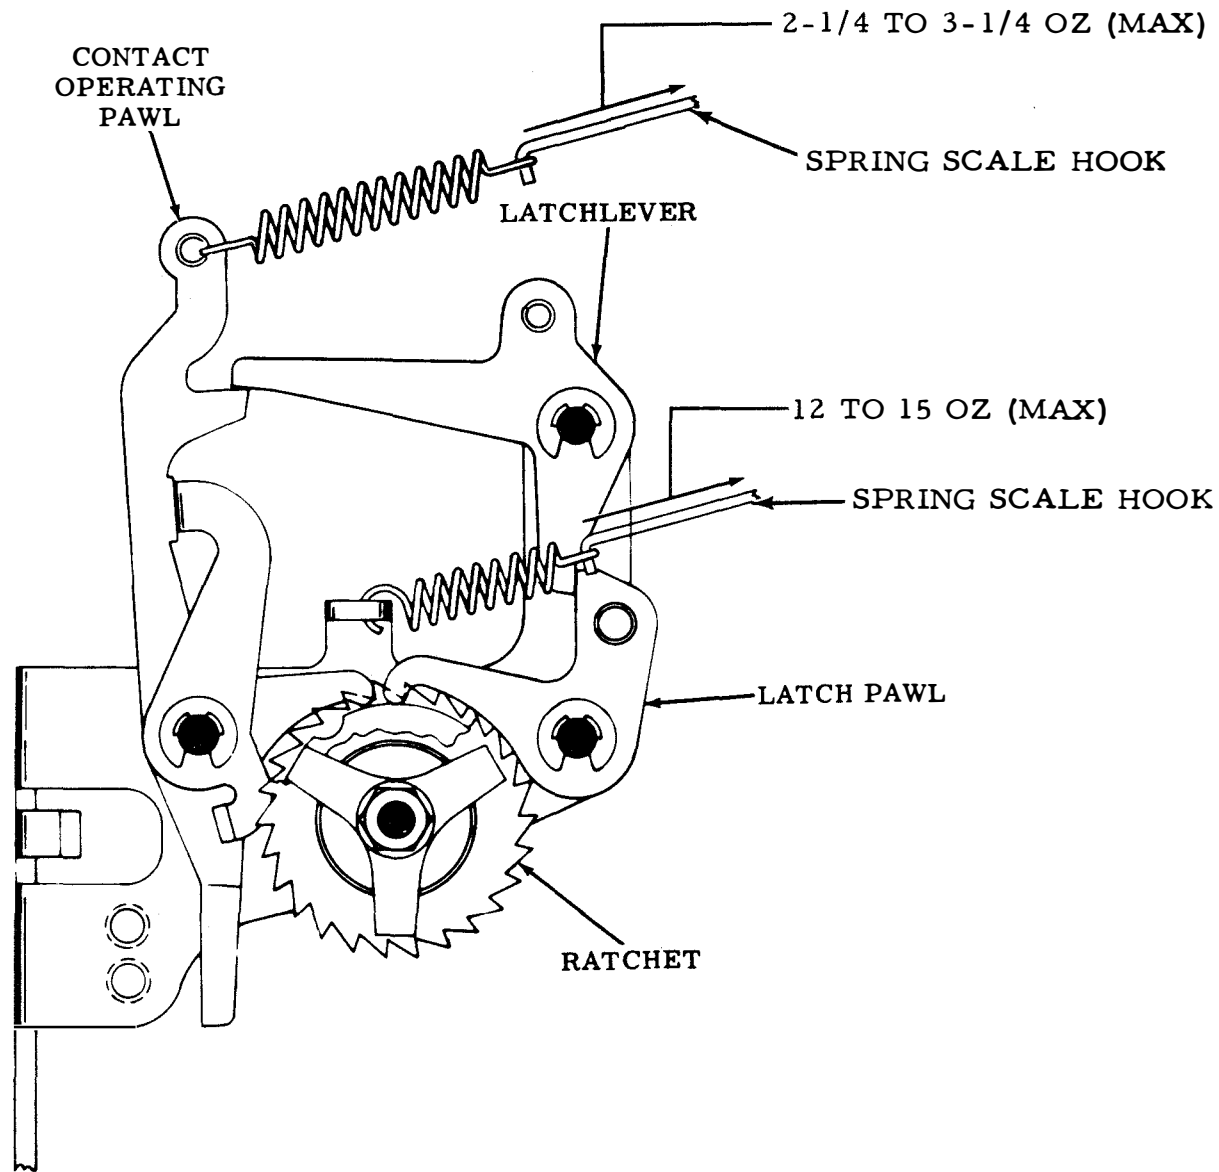

Figure 6-244. Time Delay Latch Pawl Spring and Contact Operating Pawl Spring
(8) Time Delay Latch Pawl Spring. Adjust as follows:
- (a) Refer to figure 6-244.
(9) Time Delay Contact Operating Spring. Adjust as follows:
(10) Time Delay Drive Pawl. Adjust as follows: